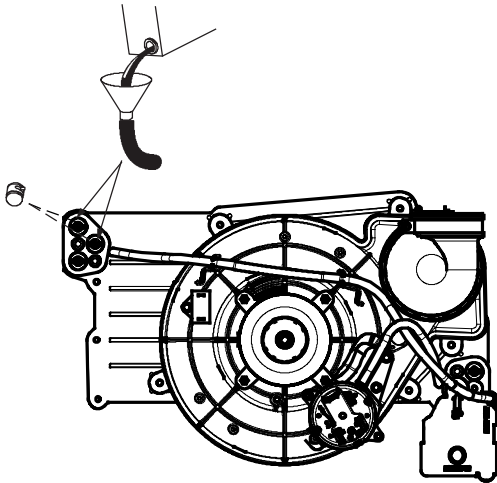

Fig. 59 - Priming Condensate Trap
1. Remove upper and middle collector box drain plugs opposite of the condensate trap. See Fig. 59.